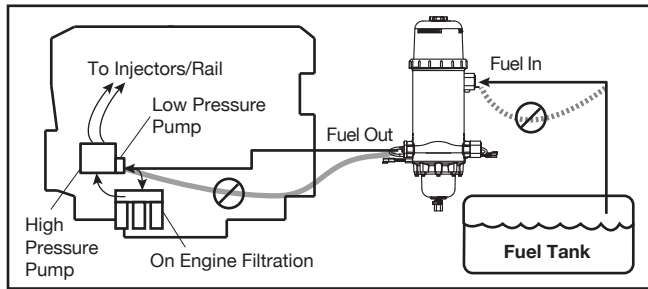

Figure 1 - Industrial Pro Connections
4. Route the fuel supply line from the fuel tank to the Industrial Pro inlet (see Figure 1). Route a fuel line from the Industrial Pro outlet to the fuel pump inlet.